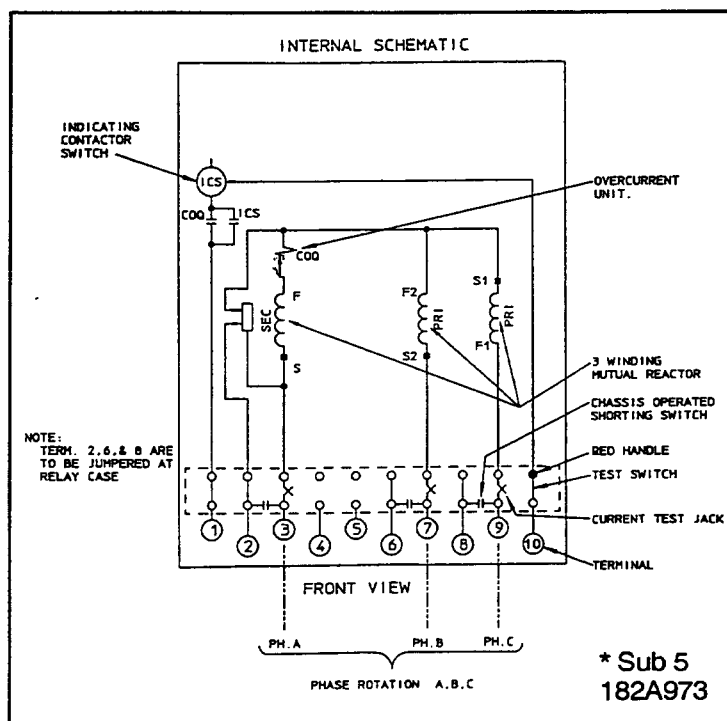
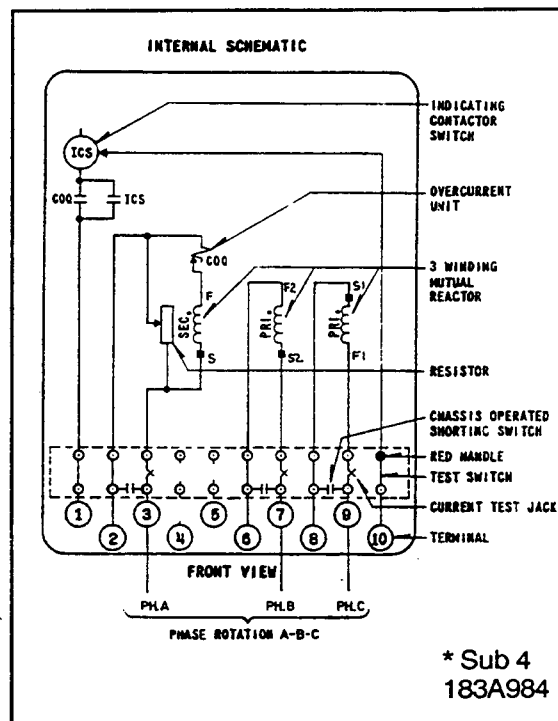

Figure 2. Internal Schematic of the Type COQ Relay in the FT 21 Case – Neutral Formed in Relay
Figure 3. Internal Schematic of the Type COQ Relay in the FT 21 Case – For Forming Neutral External to Relay
The COQ is used to prevent a synchronous machine from being damaged due to negative sequence fault currents. Two varieties are available, as shown in Figures 2 and 3, depending upon whether the neutral can be formed at the COQ or whether the neutral must be formed elsewhere. (See external schematic, Figures 8 and 9.)
- e. Now measure the voltage across the resistor. Adjust top filter resistor position until this voltage is 1.73 times the reading from (d) above. For relays wired per Figure 2 connect the voltmeter to switch jaw 3 and to the top filter resistor screw connection (see Figure 1). For relays wired per Figure 3 connect voltmeter across switch jaws 2 and 3.
To eliminate zero sequence response (relays wired per Figure 2 only), remove tap screw, and connect per Figure 10: Apply $I_X = 5$ amperes; $I_Y = 10$ amperes. Measure voltage from terminal 3 to top filter resistor screw connection (see Figure 1). Adjust the neutral filter resistor tap until measured voltage is zero.